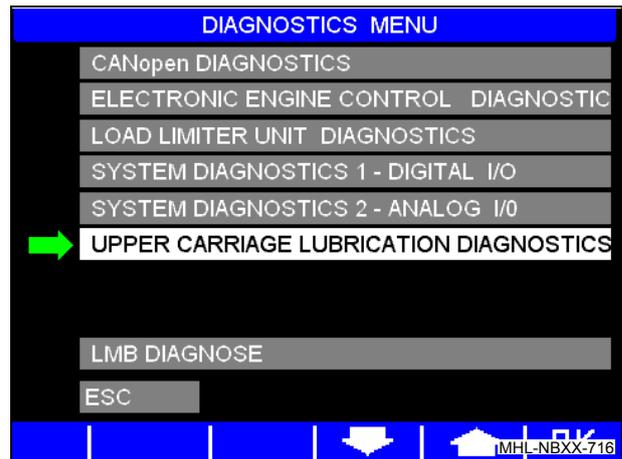

Fig. 177 Diagnostics menu
- ▶ Call up diagnostics menu (Fig. 177) and select the "upper carriage lubrication diagnostics" function.